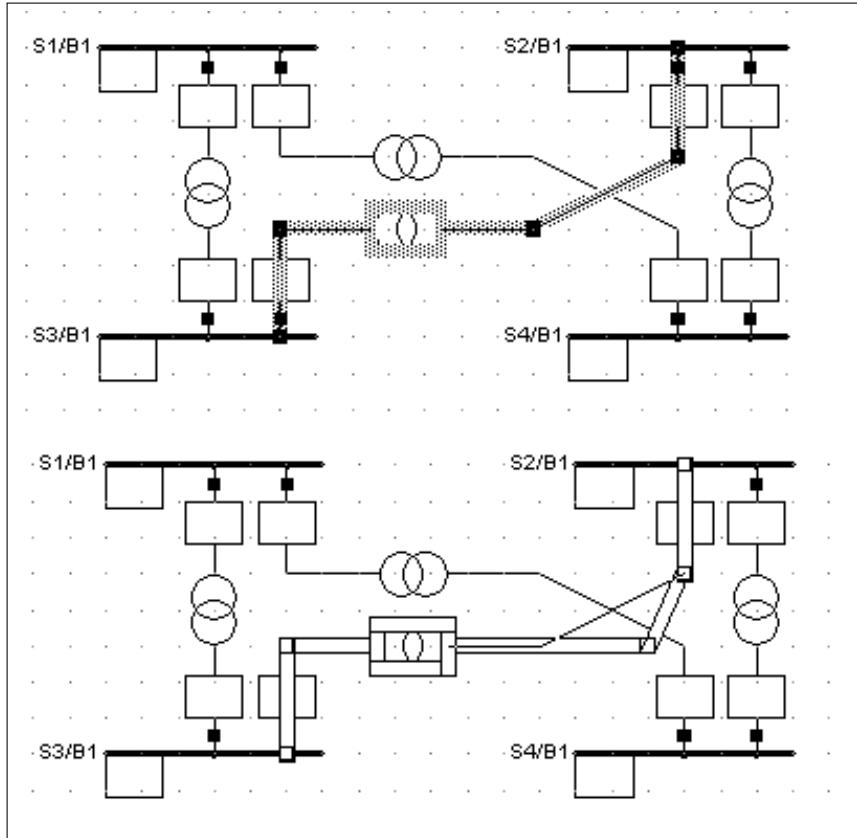

Figure 9.3.6: Editing line points
**Edit Line Points:** right-click and select *Edit Line Points* will show the black squares ('line points') that define the shape of the connection. Each of these squares can be moved by left clicking and dragging them to a new position (see figure 9.3.6). New squares can be inserted by left clicking the connection in between squares. Line points are deleted by right-clicking them and selecting the *Delete Vertex* option from the case sensitive menu. This menu also presents the option to stop (end) the line point editing, which can also be done by left clicking somewhere outside the selected lines.